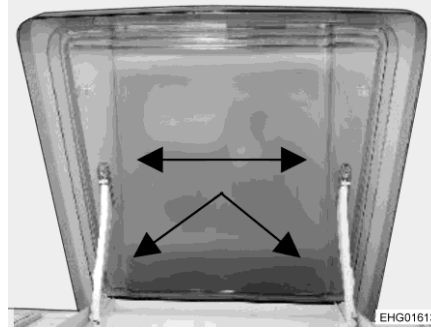

Fig. 133 VisionStar skylight
- The skylight can be removed for cleaning. To do this, carefully remove the plastic pins (Fig. 133, arrows).